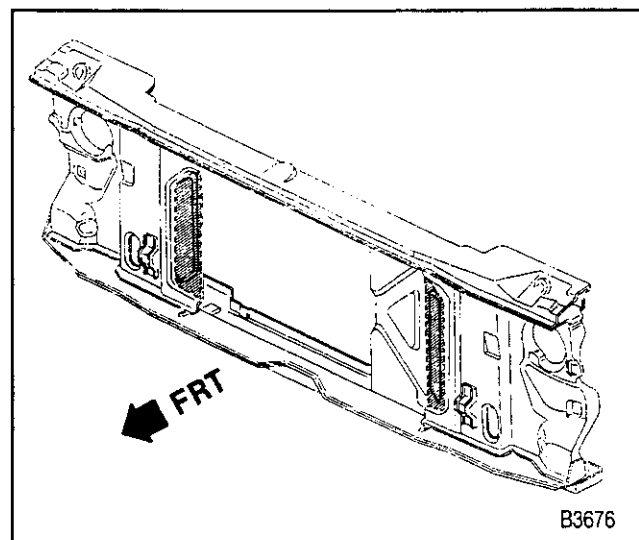

Figure 20—Radiator Support
7. Fender to the radiator support bolts (figure 20).